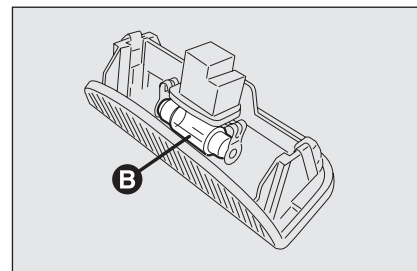

fig. 45
- ☐ replace the bulb **B-fig. 45** releasing it from the side contacts making sure that the new bulb is correctly clamped between the contacts;